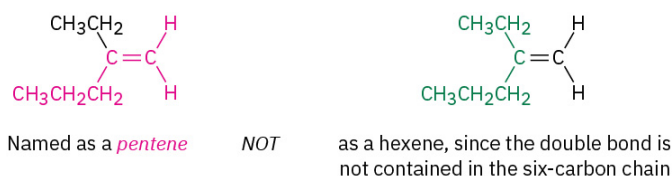

Figure 22.1e. Finding the longest chain in an alkene using pentene as the example. (credit: *Organic Chemistry (OpenStax)*, CC BY-NC-SA 4.0)
1. Name the parent hydrocarbon. Find the longest carbon chain containing the double bond, and name the compound accordingly, using the suffix *-ene* as in Figure 22.1e.